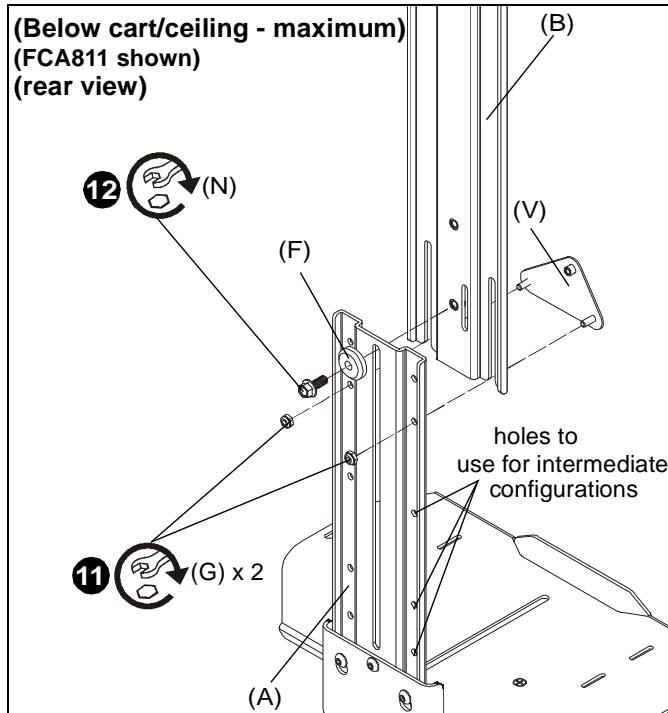

Figure 12
11. (For **maximum/intermediate extension**) Use two #10-24 lock nuts (G) to secure upright bracket (A) to main bracket (B) and adapter plate (V). (See Figure 12)
12. (For **maximum/intermediate extension**) Use 1/4-20 x 5/8" hex head flange bolt (N) and center washer (F) to secure upright bracket (A) to main bracket (B). (See Figure 12)